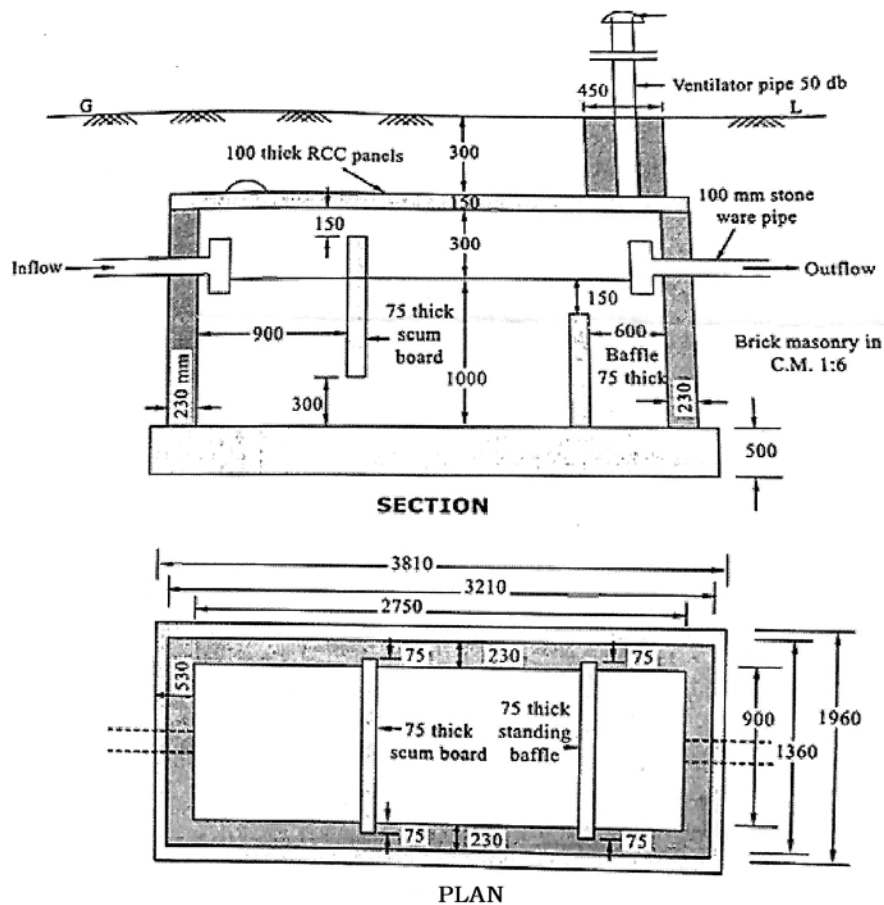

Fig.3
- Instructions :** (1) Answer the following question.
(2) The question carries **ten** marks.
(3) Answers should be comprehensive and criterion for valuation is the content but not the length of the answer.
- 16.** Calculate the following quantities of a septic tank shown in Fig. 3.